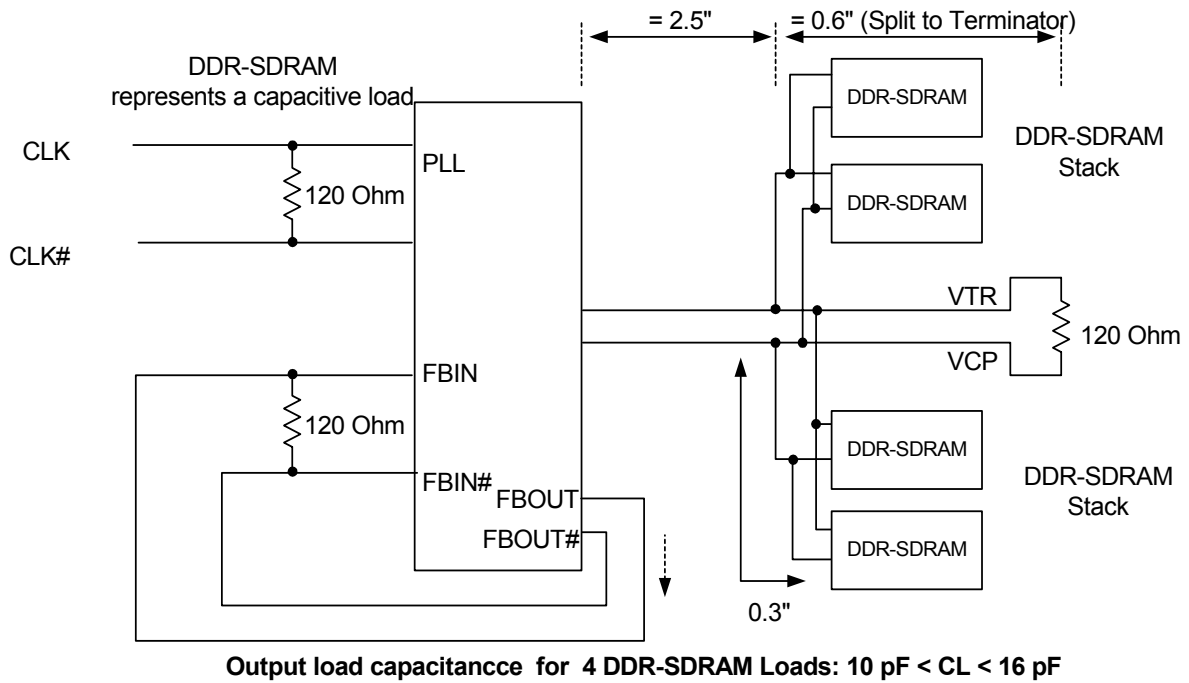

Figure 5. Clock Structure # 1
14. All differential input and output terminals are terminated with 120Ω/16 pF, as shown in *Figure 5*.